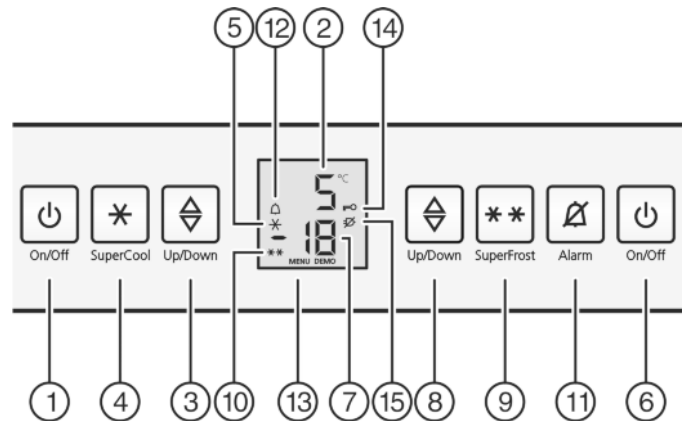

Fig. 2
- ▶ Press the freezer On/Off *Fig. 2 (6)* button.
- ▶ Press the fridge On/Off *Fig. 2 (1)* button.
- ▶ Activate setting mode: press the SuperFrost button *Fig. 2 (9)* for approx. 5 seconds.
- ▷ The Menu symbol *Fig. 2 (13)* is shown on the display.
- ▶ Briefly confirm with the SuperFrost button, *Fig. 2 (9)*.
- ▷ The child lock symbol *Fig. 2 (14)*, lights up on the display.
- ▶ Briefly press the freezer compartment On/Off button *Fig. 2 (6)*.
- ▷ The child lock symbol *Fig. 2 (14)* goes out.
- ▶ Press alarm button *Fig. 2 (11)*.
The temperature display and the alarm symbol *Fig. 2 (12)* flash at the same time.
The audible alarm is automatically silenced, the alarm symbol *Fig. 2 (12)* goes out and the temperature display stops flashing when the temperature is sufficiently cold again.